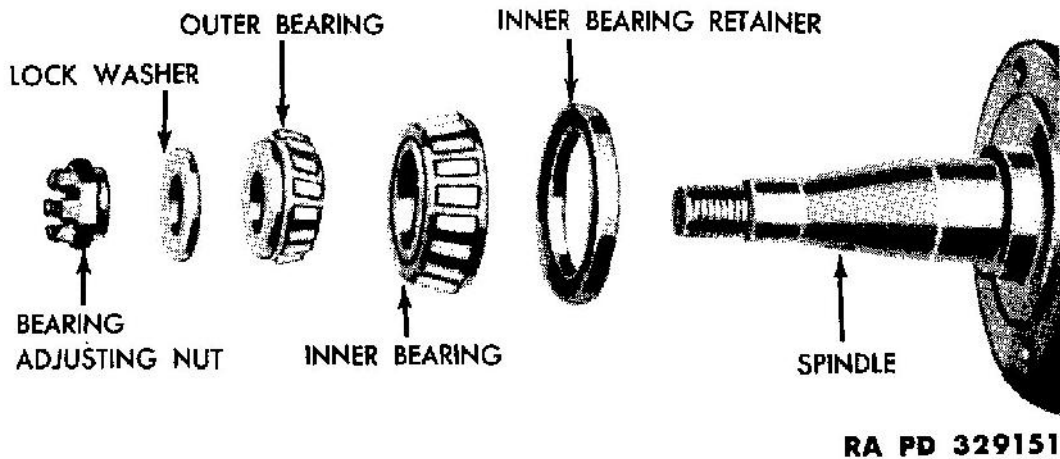

Figure 67 — Front Wheel Bearings and Spindle
a. **Front Wheel Bearings** (figs. 67).